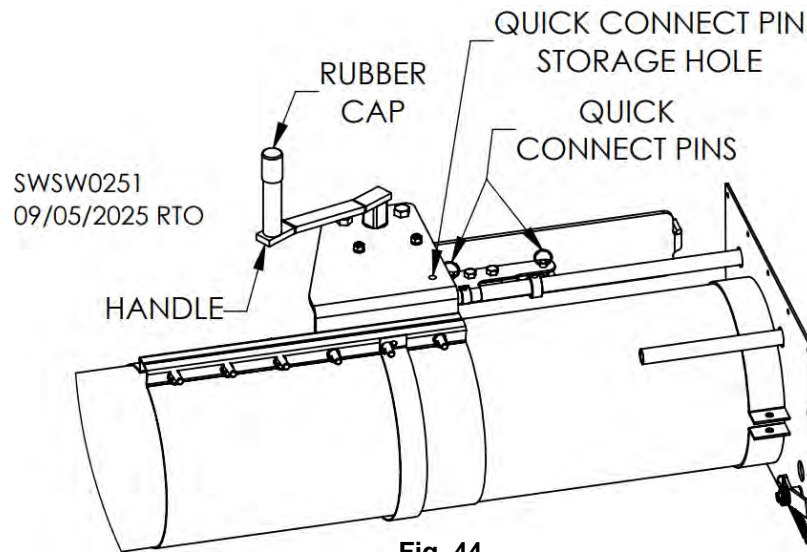

Fig. 44
6. Insert quick-connect pins to connect rack & pinion opener and intermediate sump connector. See Fig. 44.
9. Install handle and rubber cap. See Fig. 44.